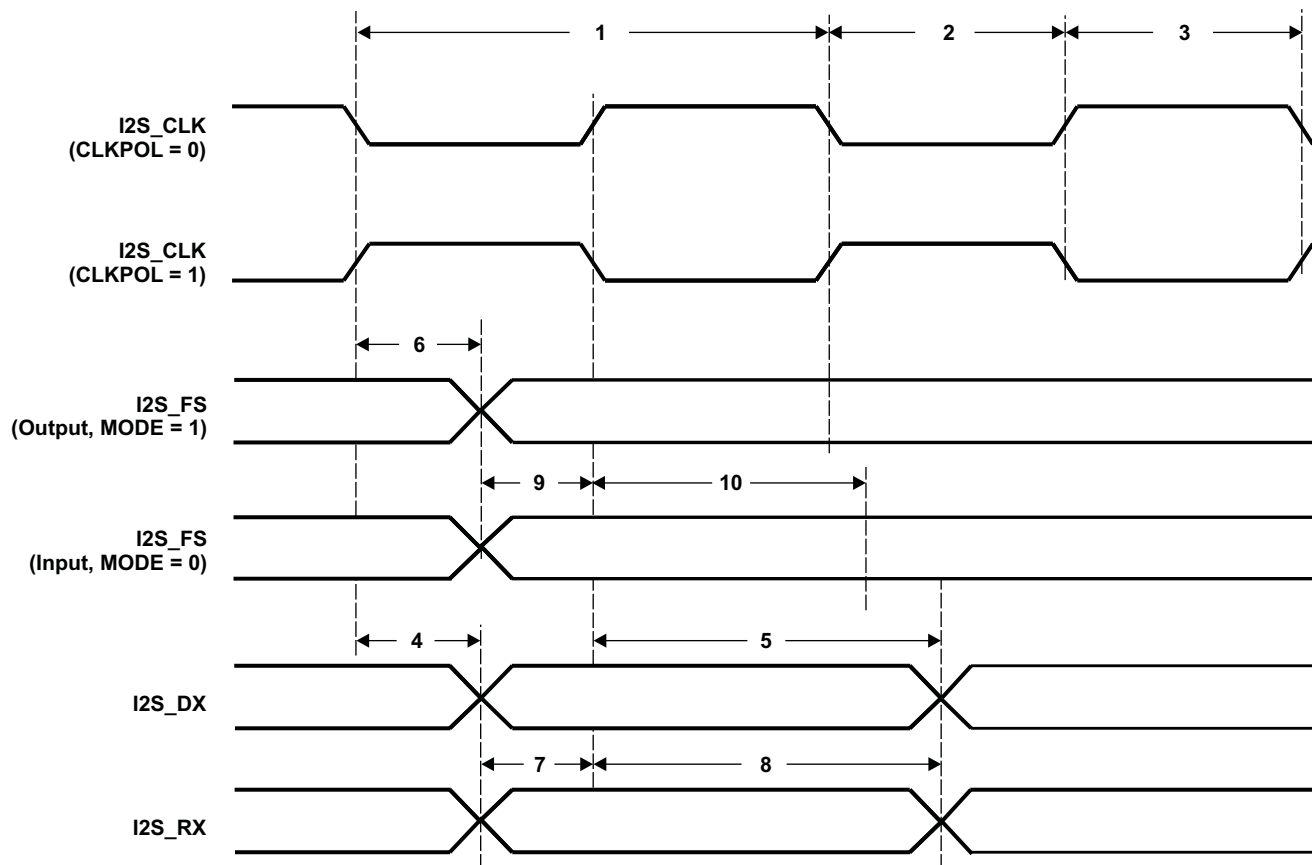

Figure 6-25. I2S Input and Output Timings
**Table 6-31. Timing Requirements for I2S [I/O = 3.3 V, 2.8 V, and 2.5 V](1) (see Figure 6-25)**
(1) P = SYSCLK period in ns. For example, when running parts at 100 MHz, use P = 10 ns.
(2) Use whichever value is greater.
(3) In Slave Mode, I2S\_FS is required to be latched on both edges of I2S input clock (I2S\_CLK).
**Table 6-32. Timing Requirements for I2S [I/O = 1.8 V](1) (see Figure 6-25)**
[I/O = 3.3 V, 2.8 V, or 2.5 V] (see Figure 6-25)
**[I/O = 1.8 V] (see Figure 6-25)**